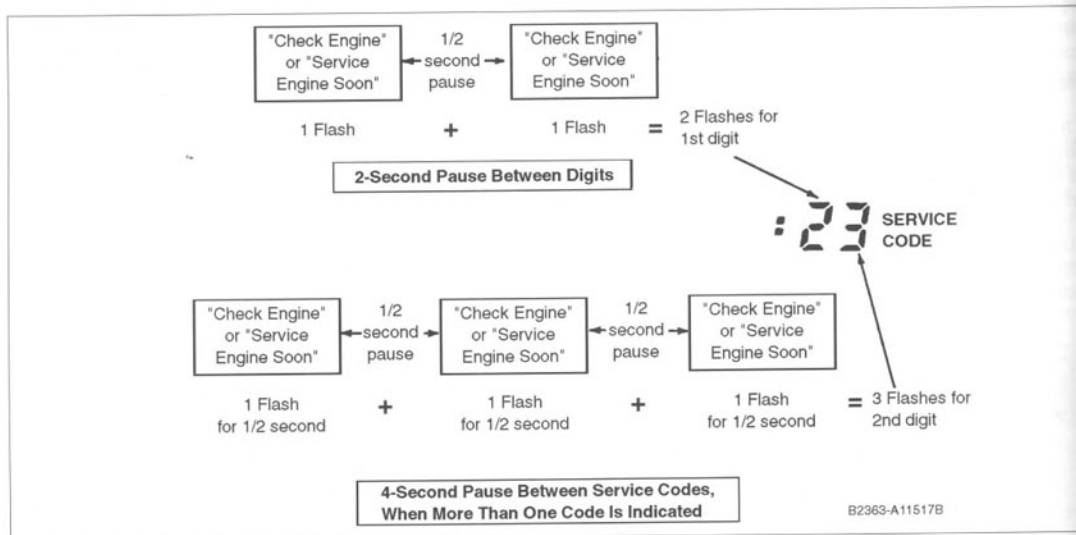

Fig. 4-7. MIL trouble code output format.
**With MIL:** With the MIL, you read codes by counting light flashes. It may seem difficult, but once you've tried it, it's not so hard. See Fig. 4-7.